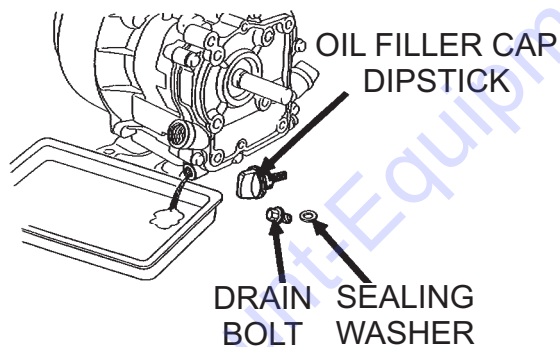

Figure 25. Engine Oil (Draining)
2. Drain the engine oil when the oil is *warm* as shown in Figure 25.